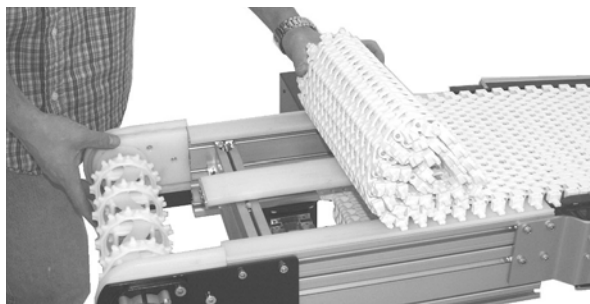

Figure 7
1. Position the belt on the conveyor frame (**Figure 7**).